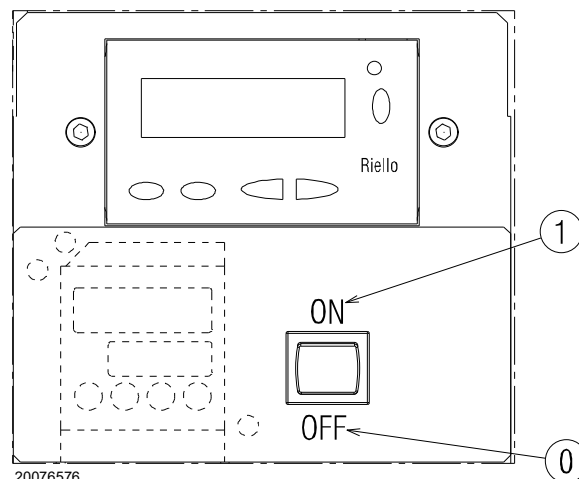

Fig. 25
Close the thermostats/pressure switches and set the switch of Fig. 25 to "1/ON".
- put the switch of Fig. 25 to "0/OFF" and wait until the flame control carries out the switching off phase;
The burner is in the heat request waiting mode, or the selector "0-1" (Fig. 25 on page 30) is at "0".